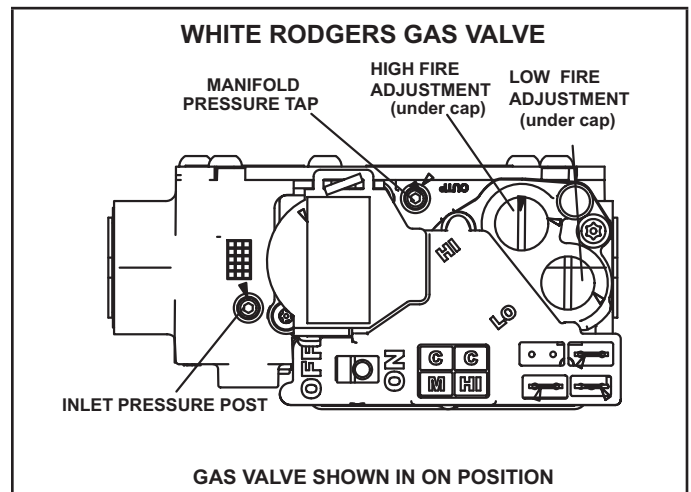

Figure 66
Gas Valve Operation (Figure 66)
- 8 - Move gas valve switch to ON. See Figure 66.
An inlet post located on the gas valve provides access to the supply pressure. See Figure 66. Back out the 3/32 hex screw one turn, connect a piece of 5/16 tubing and connect to a manometer to measure supply pressure. See TABLE 21 for supply line pressure.
A manifold pressure post located on the gas valve provides access to the manifold pressure. See Figure 66. Back out the 3/32 hex screw one turn, connect a piece of 5/16 tubing and connect to a manometer to measure manifold pressure.